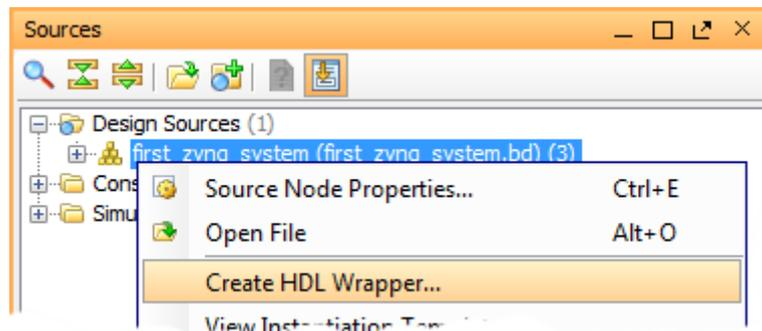

Figure 1.23: Create HDL Wrapper
- (n) In the **Sources** window, right-click on the top-level system design, which in this case is **first_zynq_system**, and select **Create HDL Wrapper**, as shown in Figure 1.23.